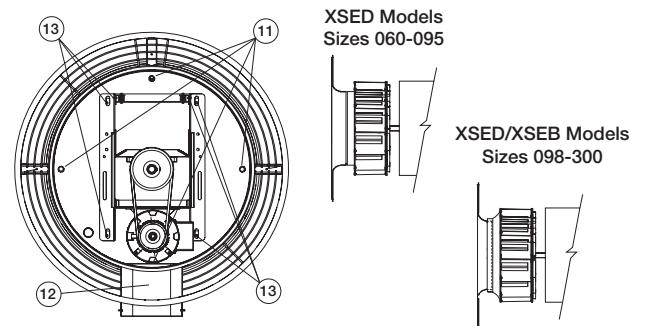

Figure 4
4. During shipping, wheel position may shift. Alignment should be as shown above (centered in the inlet) and can be accomplished by loosening the fasteners (11) located in the motor compartment. For belt drive units, additional vertical alignment can be accomplished by loosening the four fasteners on the drive frame support angles and the two fasteners that hold the L-brackets to the support angles on top (13). Also, horizontal alignment can be made by loosening the bearings from the bearing plate.
Removal of the entire power pack (motor, drives and wheel) for maintenance or cleaning can be accomplished by removing the breather tube (12) and fasteners (11). Reference Figure 4.